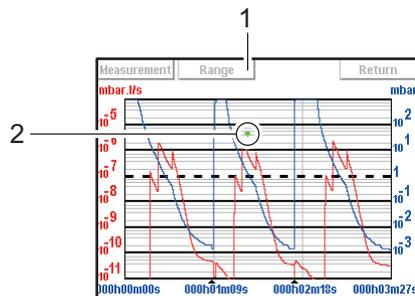

Fig. 15: Example of the recording of a point
→ Select the point to measure (ref. 2 Fig. 15).